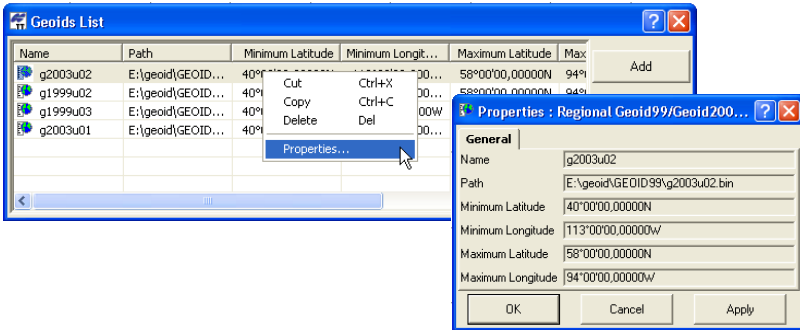

Figure 2-25. Geoids List and Properties Dialog Box
- Right-click on the **Geoids List** dialog box to display a pop-up menu, then click **Properties** to display the **Properties** dialog box (Figure 2-25).